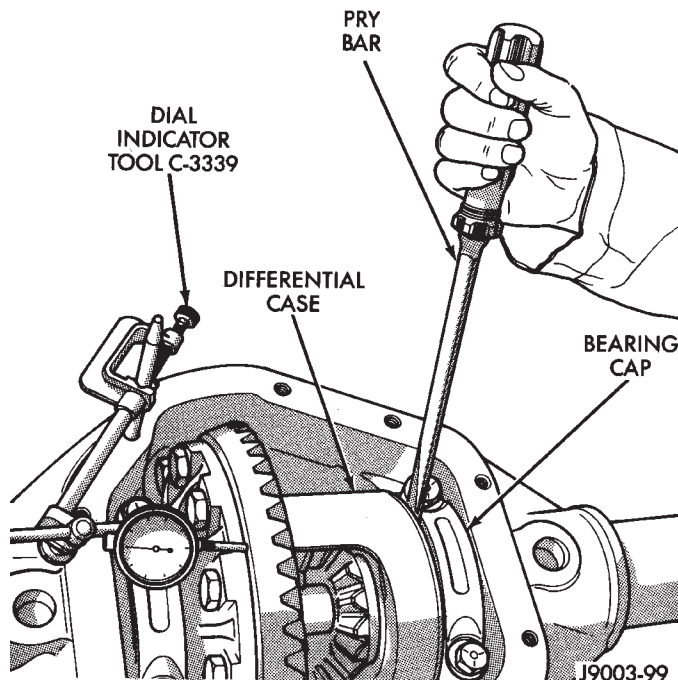

Fig. 47 Shim Pack Measurement
(1) Place Master Differential Bearing D-134 (D-348) on the case hubs.
(2) Install a pilot stud at the left side of housing. Attach Dial Indicator to housing. Load the indicator plunger against the back of the ring gear (Fig. 47). Ensure ring and pinion gear teeth are tightly meshed. Zero the indicator.
(3) Insert a small pry bar between the bearing cap and left side of differential case. Pry the case as far as possible to right side (Fig. 47). Zero the dial indicator pointer.
(4) Repeat the measurement several times to check consistency. Record the travel distance.